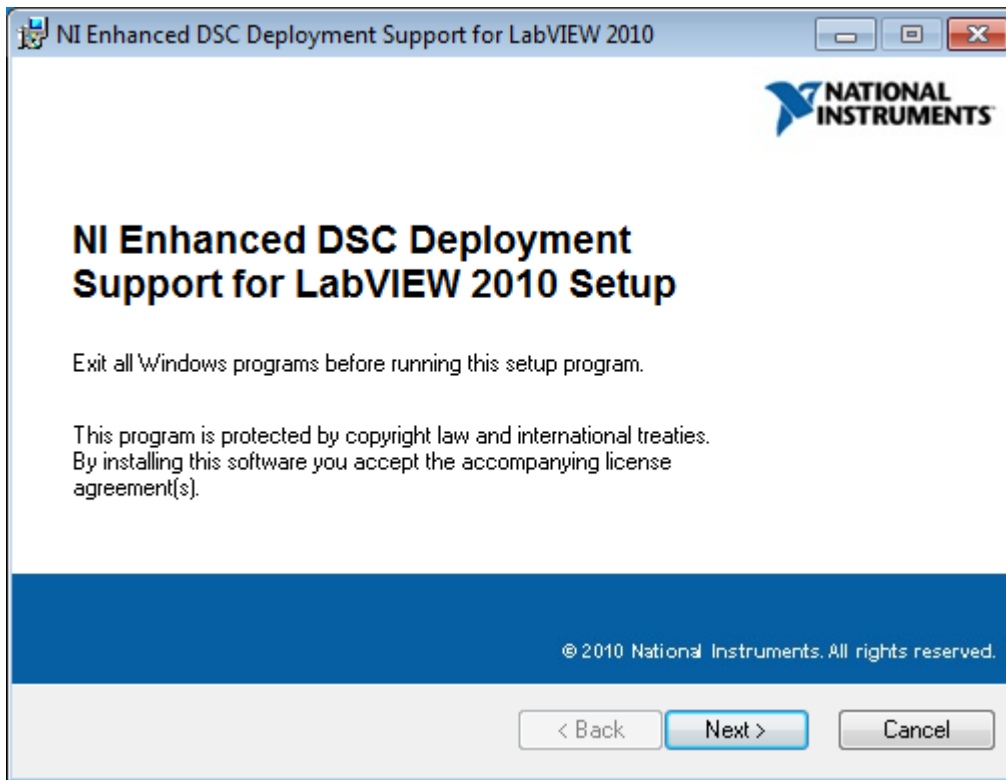

Figure 24. LabVIEW RTE Installation Initialization
2. Double click on the downloaded LVRTE2010std.exe file. The screen shown in Figure 24 appears. Press the *Next >* button.